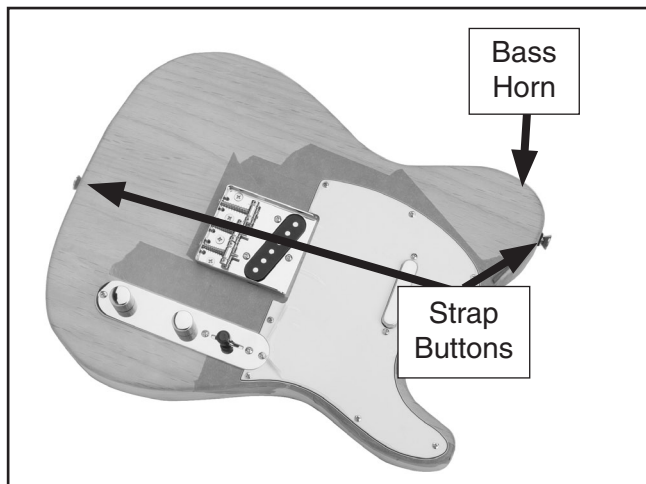

Figure 24. Strap buttons.
The strap buttons are positioned on the guitar as shown in **Figure 24**.
1. Using a $\frac{1}{16}$ " drill bit, drill $\frac{3}{4}$ " deep holes at the end of the guitar—on the center line— and on the bass horn (**Figure 24**).